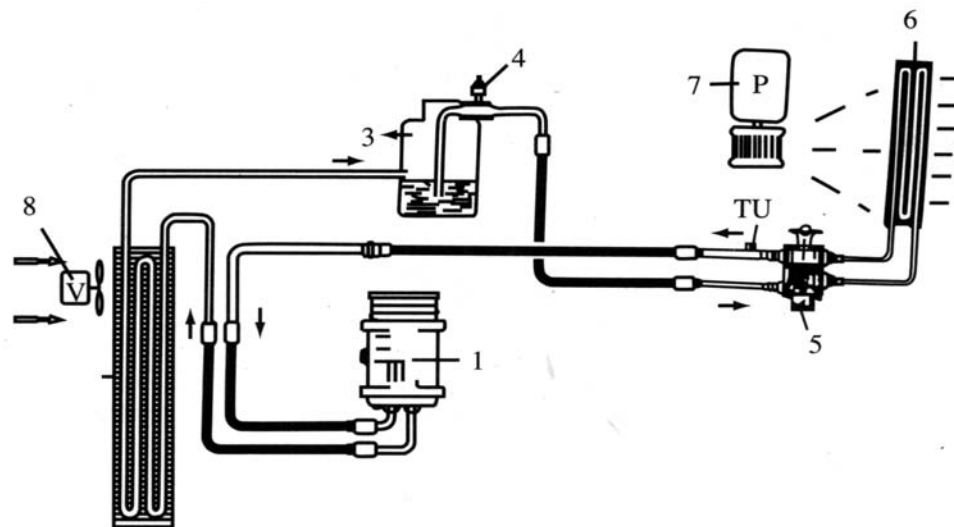

Figure 1 The Structure and Working Principle of Refrigeration System
The structure of Refrigeration system is shown in Figure 1.
It's working principle is as shown in the Figure 1. The compressor (1) sucks in the refrigerant gas in the